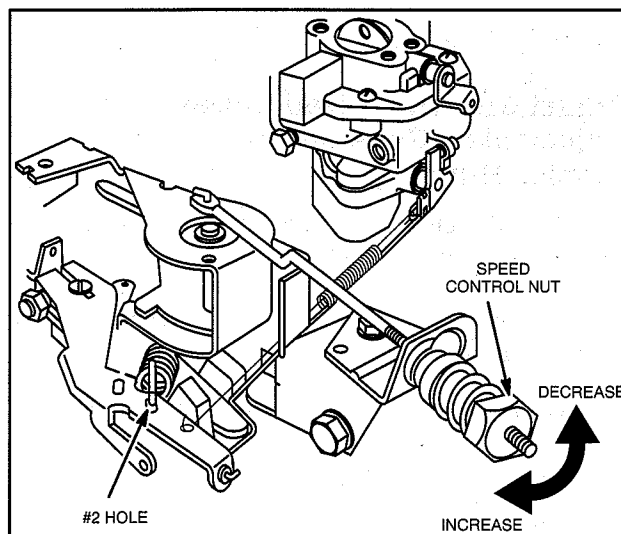

Fig. 22 - Adjusting Top No Load Speed
2. Now, engage the fixed speed adjustable control nut and adjust to **Regulated RPM** for the type of generator listed in Table 1. Turn nut clockwise to increase speed. Turn nut counterclockwise to decrease speed, Fig. 22.